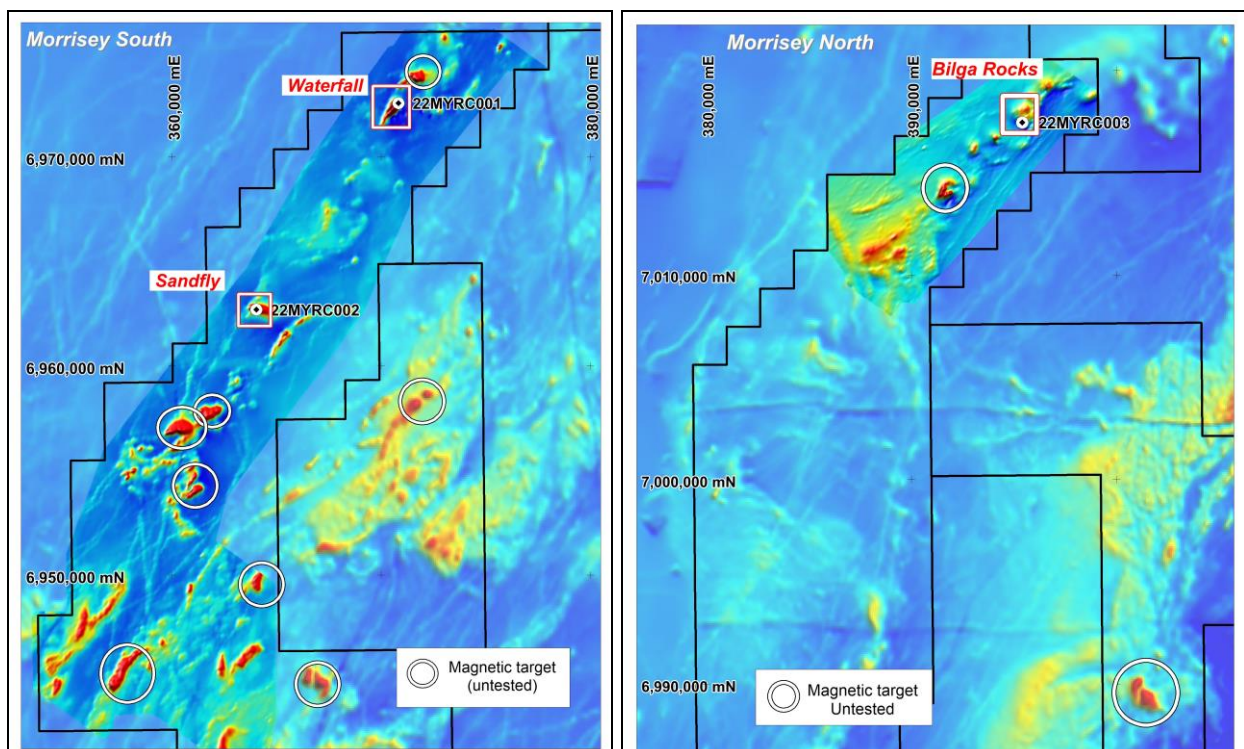

Figure 1: Magnetic images showing magnetic targets and drill-hole locations.
AusQuest Limited (ASX: AQD) is pleased to report results from the initial reconnaissance Reverse Circulation (RC) drilling program completed at the Morrisey Nickel-Copper-Platinum Group Element (Ni-Cu-PGE) Project, located in the Narryer Terrane approximately 500km north of Perth in WA (Figure 1). The Morrisey Project is subject to the Strategic Alliance Agreement (SAA) with a wholly-owned subsidiary of South32 Limited (South32).
Numerous magnetic responses evident in the regional aeromagnetic data are now considered to be potential prospects for either magnetite and/or nickel-copper-PGE mineralisation based on the results of this program (*Figure 1*). None of these targets have previously been tested by drilling.